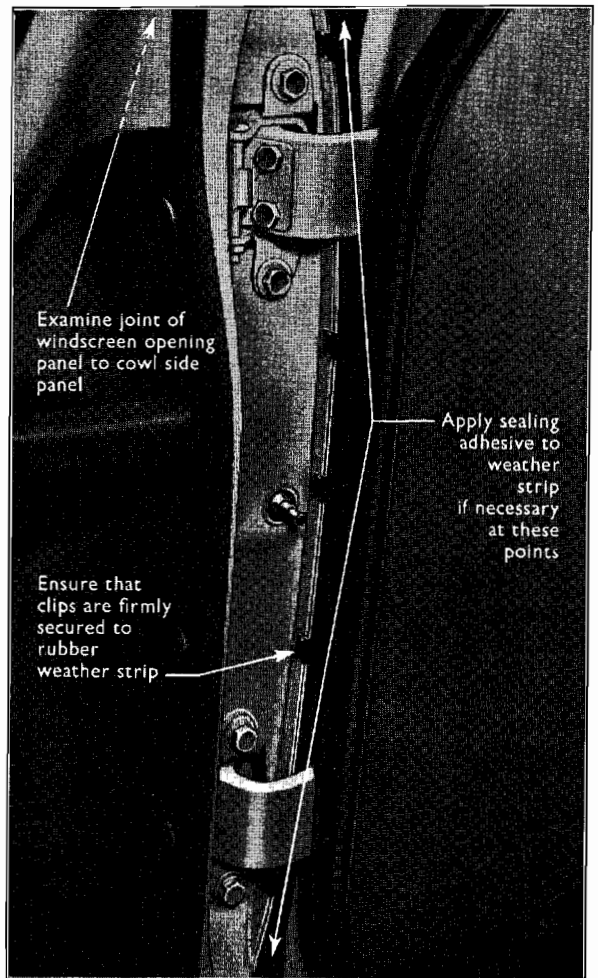

Fig. 4
**A4.** If water is running down the door pillar faces after test (see Fig. 4), check that the rubber weather strips around the doors are in good condition and that there is a good joint between the rubber on the pillar and the door weather strip when the door is shut. This can be checked by pressing a piece of paper over the weather strip closing the door and attempting to pull out the paper. If the paper is nipped, this indicates that a satisfactory seal is being made. If the seal is unsatisfactory, check that the door is aligned correctly and then, if necessary, pack out the weather strip with slivers of rubber between it and the door. If the weather strip is correctly cemented it should withstand an outward pull of
Apply sealing adhesive between the rubber weather strip and the front body pillar and check that the five securing clips are in position, and are firmly holding to the flange joint (see Fig. 4).